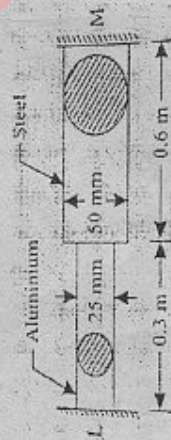

Fig. 1.1
3. A composite bar made up of aluminium and steel is held between two supports as shown in Fig.1.1. The bars are stress-free at a temperature of 40°C . What will be the stresses in two bars when the temperature is 30°C if (i) the supports are non-yielding and (ii) the supports come nearer to each other by 0.1 mm . It can be assumed that the change of temperature is uniform all along the length of the bars. Take: $E_s = 210 \text{ GN/m}^2$, $E_a = 84 \text{ GN/m}^2$, $\alpha_s = 11.8 \times 10^{-6}$ per $^\circ\text{C}$, $\alpha_a = 24.8 \times 10^{-6}$ per $^\circ\text{C}$. 20